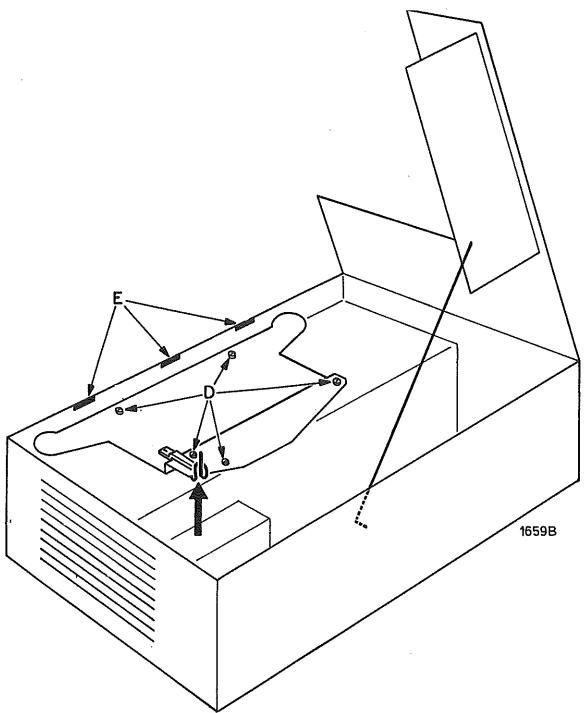

Fig. 2
- To prevent vibrating of the covering plate three rubber strips E have been fitted on the rearmost ornamental frame. These must be kept in position when the covering plate is refitted. (see Fig. 2).
- After removing the 4 screws B the complete amplifier board can be hinged to the right (first it should be lifted slightly). The board can be locked in the hinged up position by means of the hook which is clamped to the bottom of the cabinet. For this, the hook is hooked into the hole in the heatsink of the output transistors (see Fig. 2).